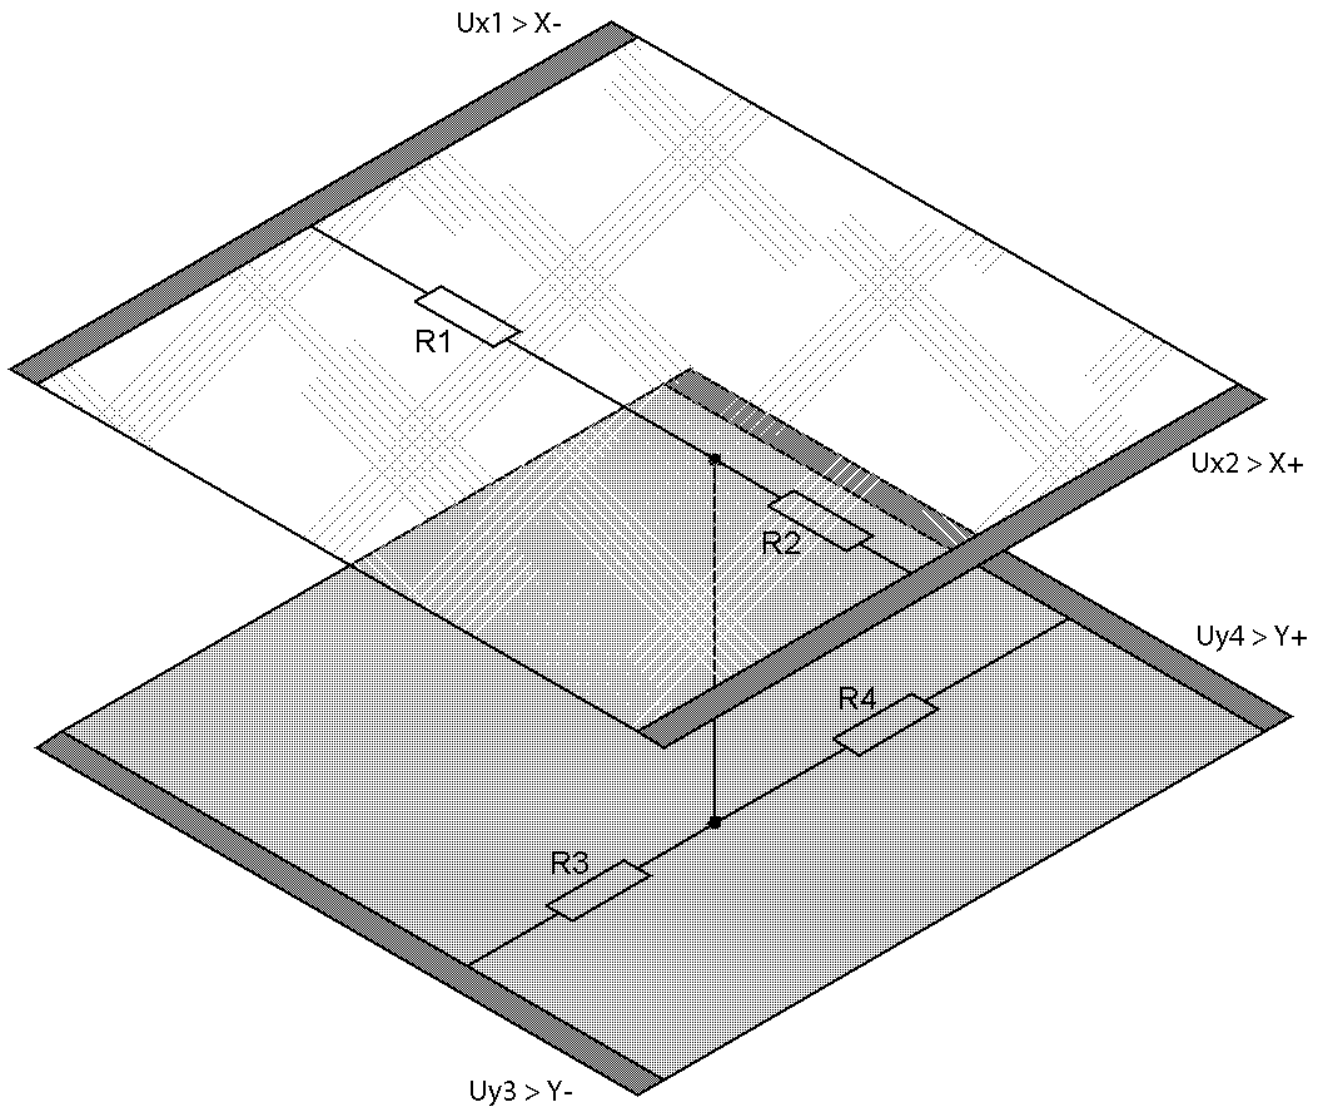

Figure 1
1. +5V input is fed to the upper electrode (**Uy4 Fig. 1**). The lower electrode (**Uy3 Fig. 1**) is grounded. Then voltage is measured on the left and right electrodes (U_{x1} , U_{x2} Fig. 1). This voltage corresponds to the Y-coordinate on the screen.
2. In the same way, the left and right electrodes (**Ux1, Ux2 Fig. 1**) are connected to +5V and GND, and the X-coordinate is obtained from the upper and lower electrode's voltage. (**Uy4, Uy3 Fig. 1**)